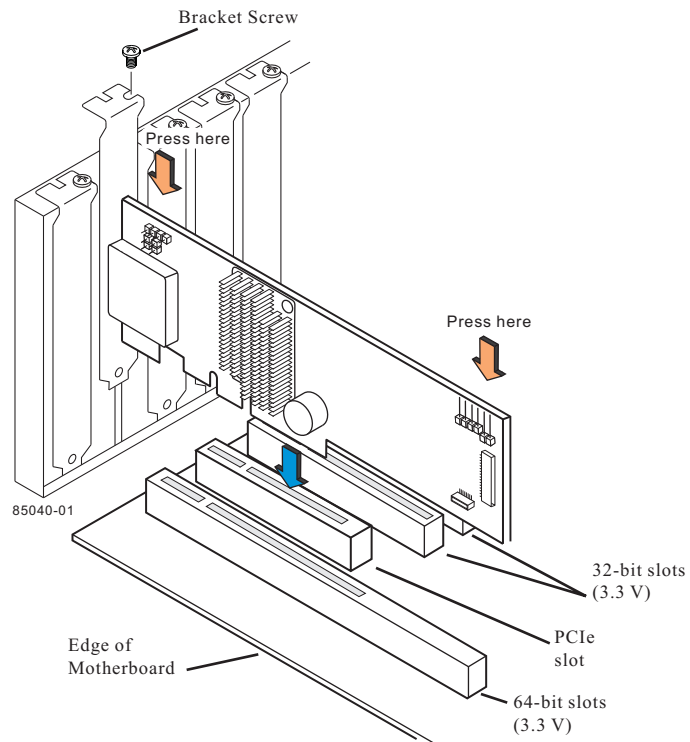

Figure 1. Installing the Intel® RAID Controller RS2PI008
4. Install the RAID controller into an available server system x8 or x16 PCI-Express* slot (see Figure 1). To locate an appropriate slot and for instructions on installing an add-in card, see your server system documentation.